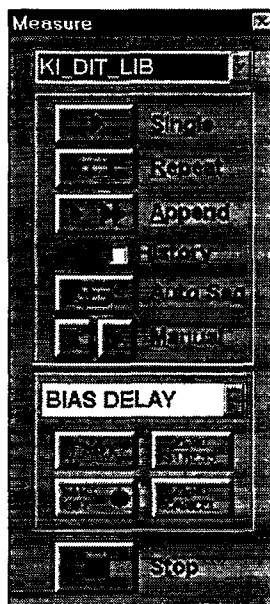

Figure 7 Measurement Selection Window
2. Click on the **Meas.** button, and note there are several options from which to choose. (See Figure 7.)